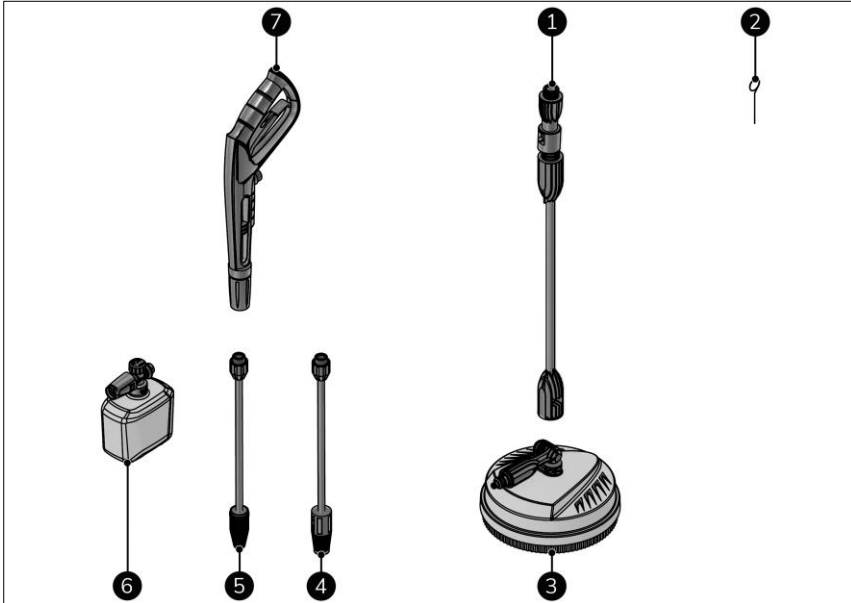

Figure 6
This device contains the following accessories (Figure 6):
1. Hold the jet gun (Figure 6, pos. 7) with both hands.
2. Place the floor cleaner (Figure 6, pos. 3) on the surface the be cleaned.